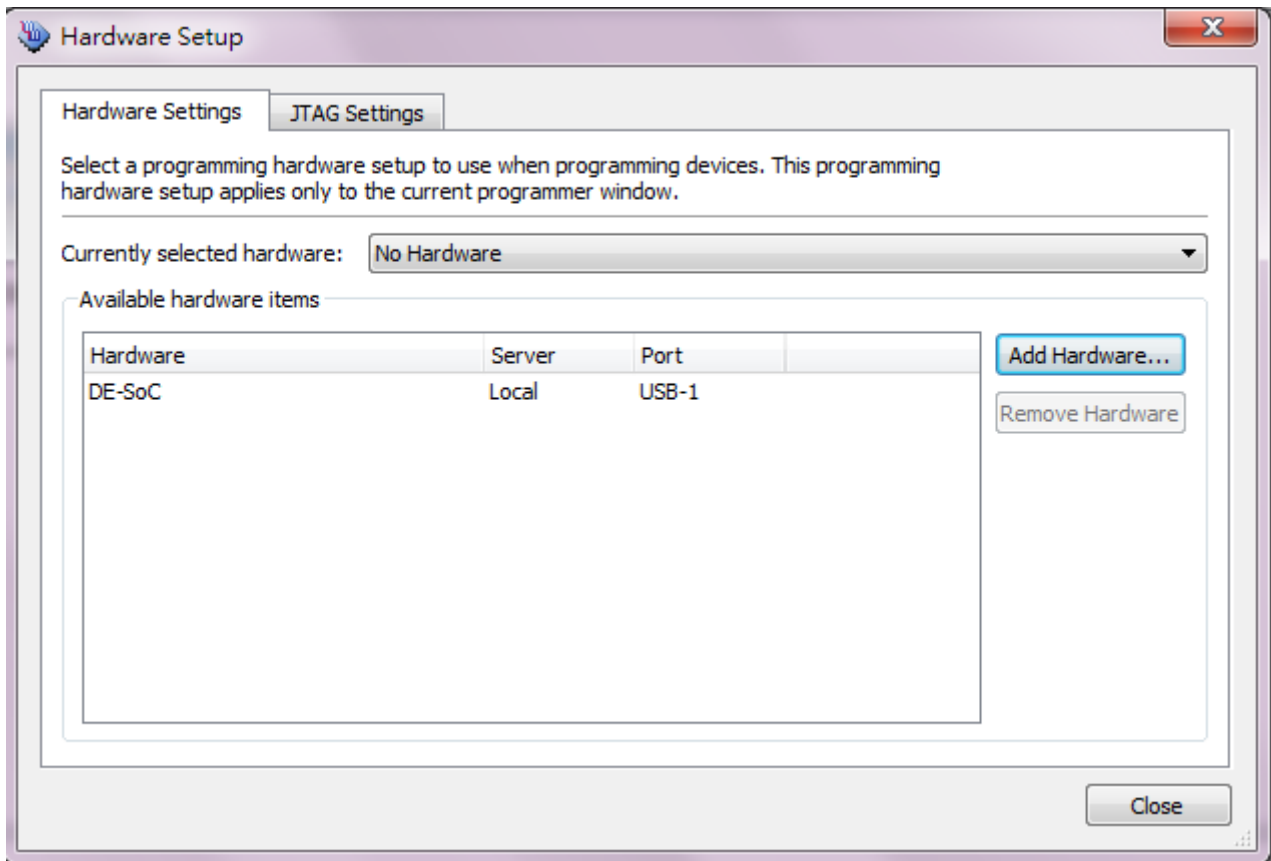

Figure 4-4 Hardware Setting
3. If it is not already turned on, turn on the DE10-Standard [USB-1] option under currently selected hardware. See **Figure 4-4**.